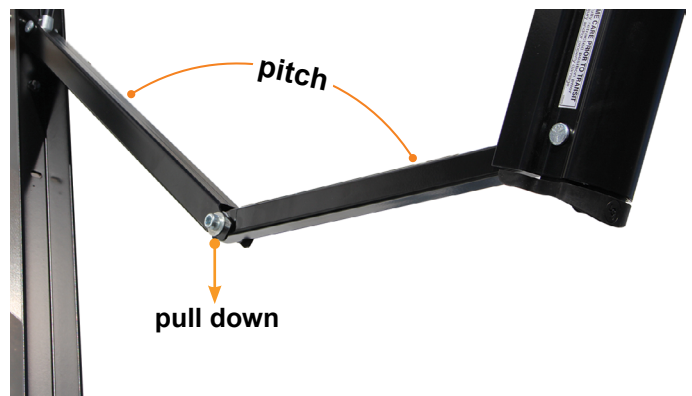

Fig.17
3. Choose the side of the awning for optimum shade or convenient water runoff. Pull downward on the joint of the pitch arm until desired pitch is set (**Fig.17**) to allow for water runoff.